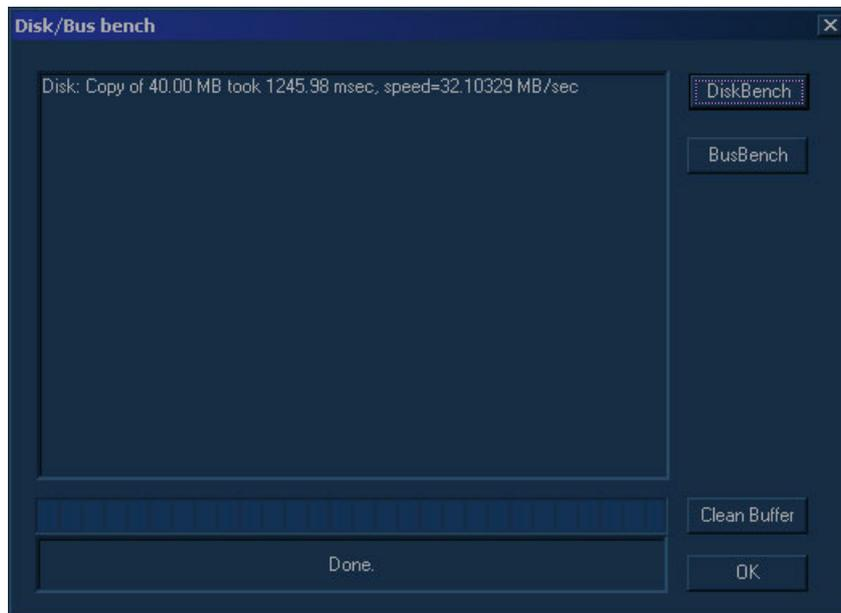

Figure 7-55 Disk/Bus Bench Window
- 3) Trackball to the **Check Disc/Bus** button and press **Select**. The **Disk/Bus Bench** window is displayed as shown in Figure 7-55 on page 7-82.